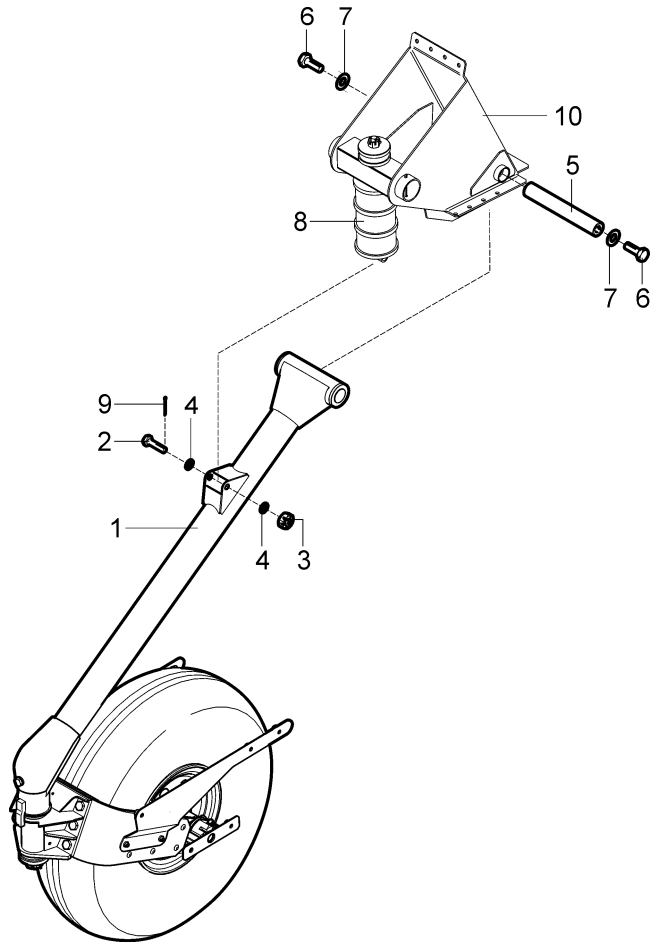

Fig. 8-11: Nose landing gear leg removal / installation.
- (b) Remove the lockwire from the bolts (6, Fig. 8-11),
- (c) Remove the bolts (6) and washers (7).
- (d) Remove the tube (5) from the leg bracket (9).
- (e) Remove the cotter pin (9), unscrew the nut (3), remove washers (4), bolt (2) and disconnect the shock absorber (8) from the bracket on the nose gear leg (1).
- (f) Remove the gear leg (1) from the fuselage and put it on a suitable place.(d)
- (b) Insert the gear leg (1, Fig. 8-11) into the bracket (9).
- (c) Insert the tube (5) to the hole in the bracket (9).
- (d) Screw the bolts (6) with the nuts (7) to the tube; tighten the bolts slightly; secure bolts with the lockwire.
- (e) Put the lower end of the shock absorber (8) to the bracket on the nose gear leg (1); install the bolt (2) with the nut (3) and washers (4), secure the nut with the new cotter pin (9).